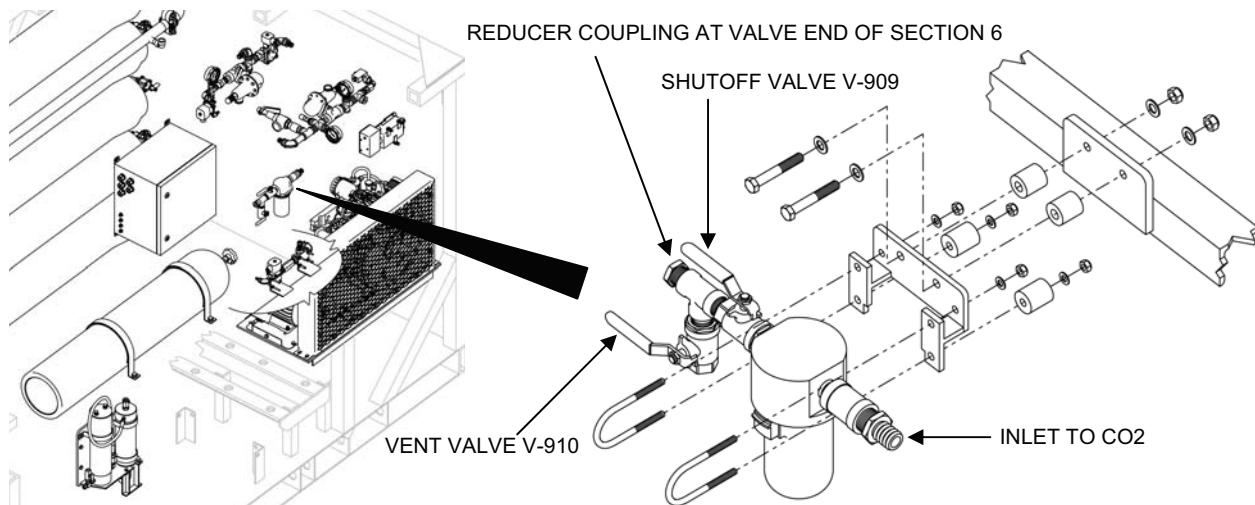

Figure 10. Air System Section 6 Assembly.
2. Remove the Air System Section 6 assembly as follows (see Figure 10):
- a. With another person supporting the Air System Section 6 assembly, secure the assembly to the TWPS using the mounting hardware. Refer to Figure 10 for the proper installation of the hardware.